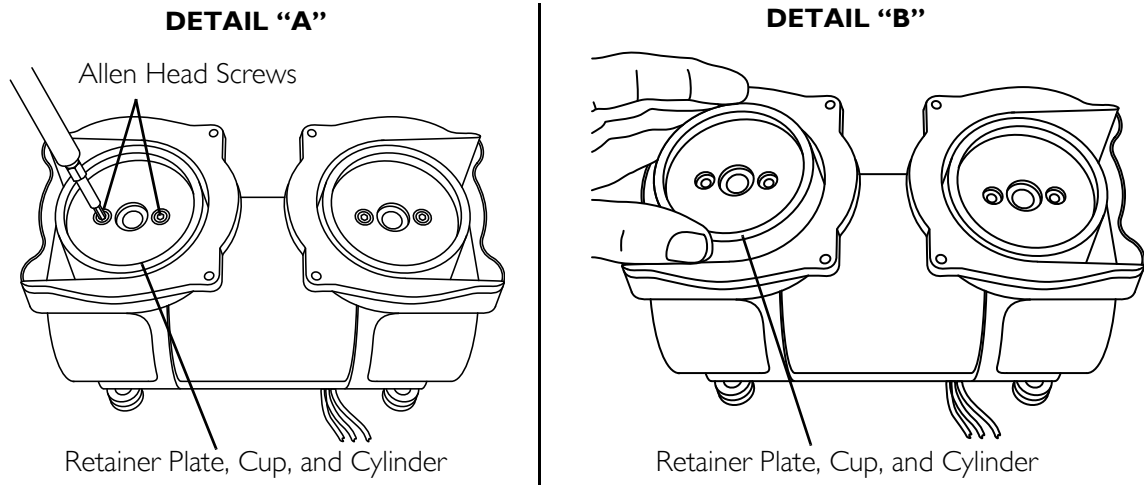
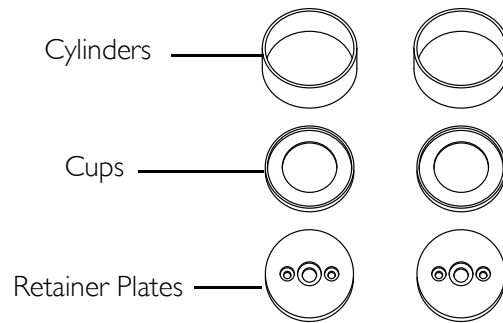
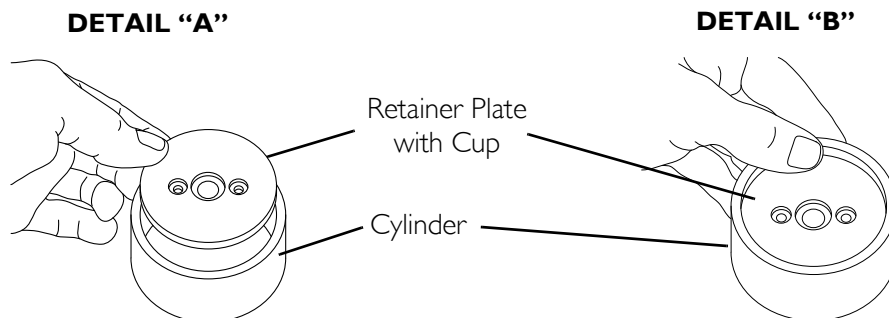
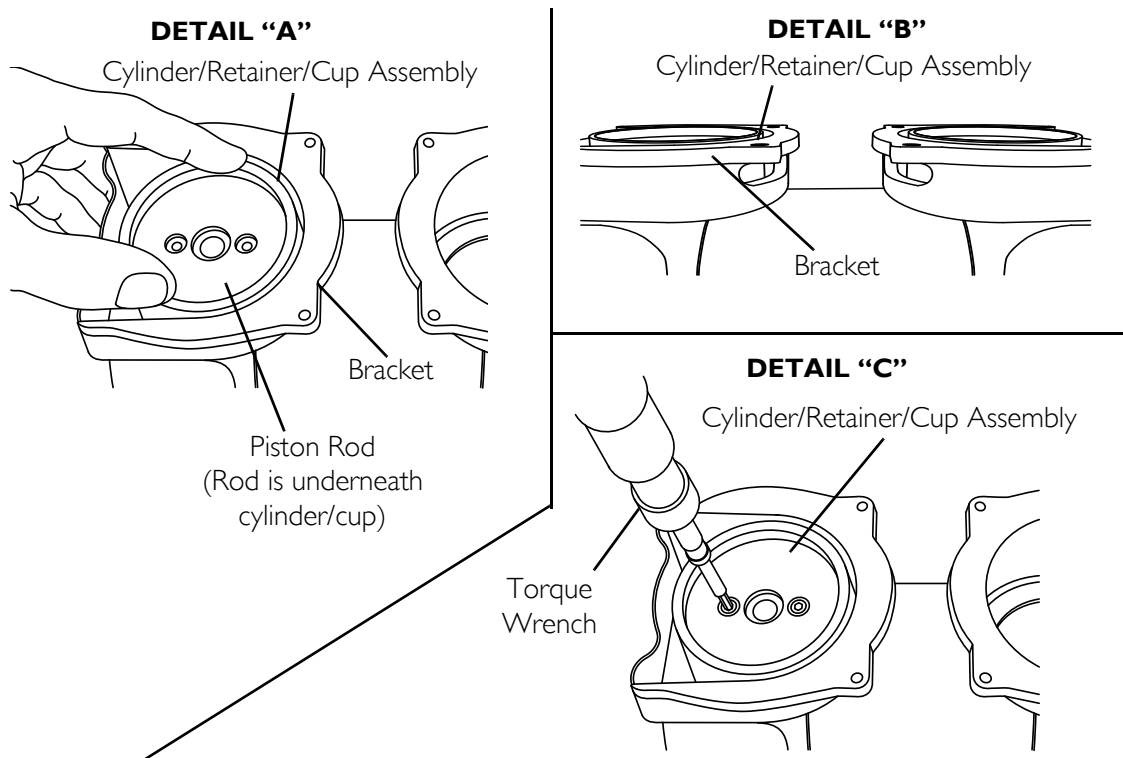

FIGURE 7.18 Removing the Existing Retainer Plate, Cups and Cylinders
FIGURE 7.19 Identifying the New Retainer Plate, Cups and Cylinders
FIGURE 7.20 Installing the New Retainer Plates, Cups and Cylinders
FIGURE 7.21 Installing the New the Cylinder onto the Compressor
NOTE: For this procedure, refer to FIGURE 7.18 and FIGURE 7.19 on page 51.
NOTE: The cylinder, cup and retainer plate should all come off together. Refer to FIGURE 7.19 for individual illustrations of cylinder, cup and retainer plate.
NOTE: For this procedure, refer to FIGURE 7.19, FIGURE 7.20, and FIGURE 7.21 on page 52.
1. Find the new cylinders and cups in the repair kit (FIGURE 7.19).
2. Place the new retainer plate into the new cup (Detail "A" of FIGURE 7.20).
4. Place the new cylinder/retainer/cup assembly over the piston rod (Detail "A" of FIGURE 7.21).
5. When properly installed, the cylinders extend slightly above the bracket surfaces (Detail "B" of FIGURE 7.21).
6. Secure the new cylinder/retainer/cup assembly to the compressor piston with the new retainer plate screws (Detail "C" of FIGURE 7.21).